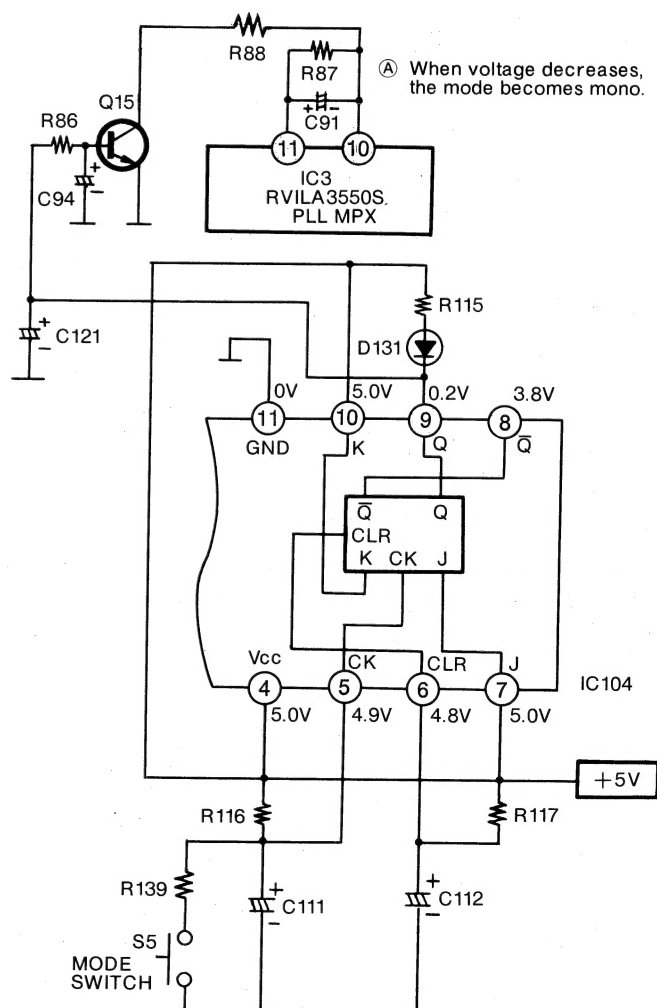

Fig. 12 Mode control circuit
- When in the FM auto mode, and (S5) is pressed once, DC output Level (Q) changes from Low to High level, and Q15 switches ON.
- When Q15 switches ON, the electric potential of point A in figure 12 drops, and the FM reception signal is forced to become monaural (Refer to the operation explanation of the PLL FM decoder.), finally making the mode become monaural.